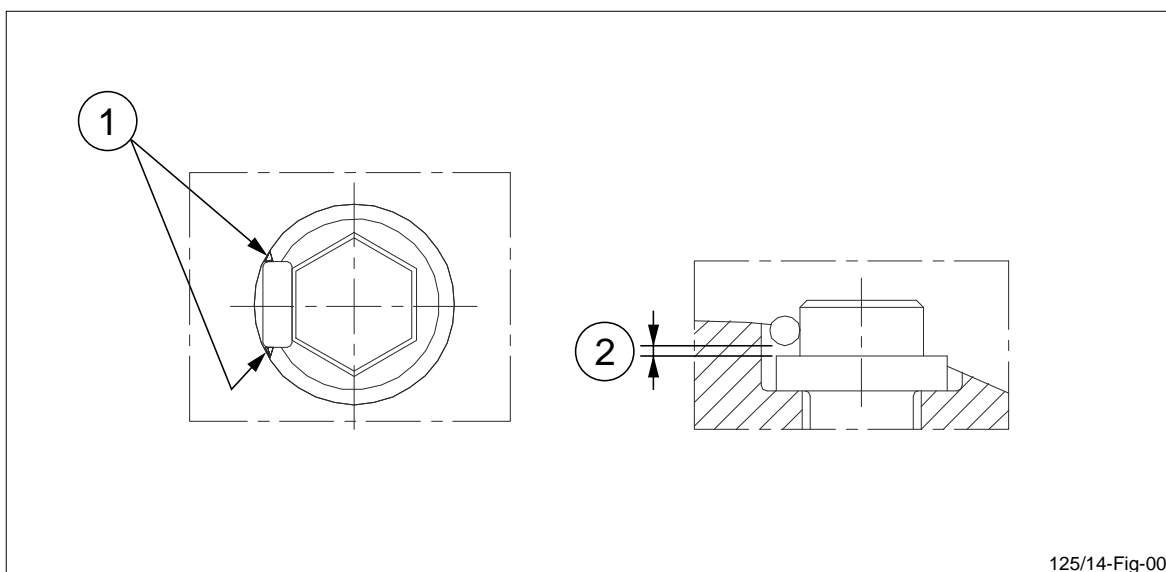

Figure 6 Lock the blade bolts by fastening a steel rod by spot welding.
30. Fit stainless steel locking pins between the hexagon part of the blade bolt and the hub. Spot weld the locking pin to the recess on the propeller blade according to figure 6. Make sure to leave a space between the locking pin and the screw (see position 2, figure 6).